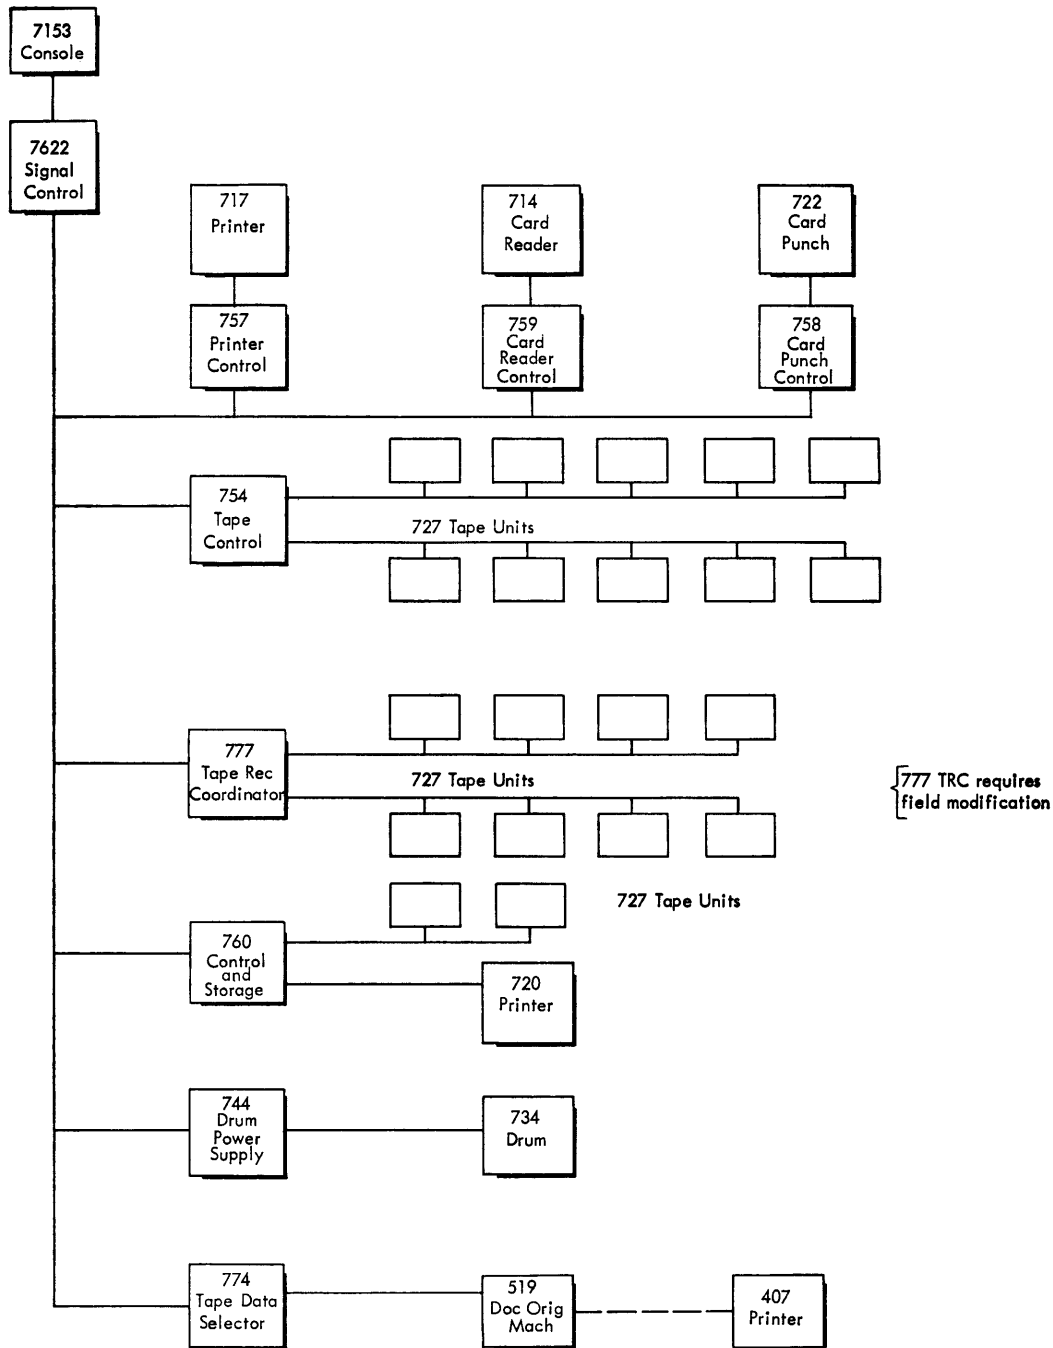

Figure 4. IBM 7080 System Diagram, 705 Input-Output Units
**IBM 7622 Signal Control:** This unit converts the signal level of the input-output units available with the IBM 705 I and II Data Processing Systems to transistor signal levels, and vice versa. Figure 4 is the schematic of the maximum combination of 705 input-output units that can be connected to the 7080 system through the 7622. Any practical number of such devices, as described below, can be used.